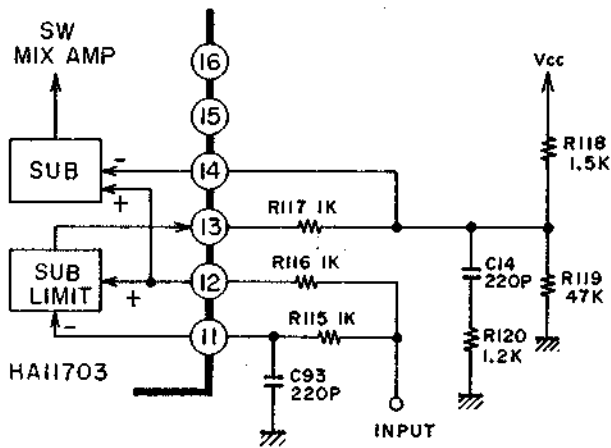

Fig. 73
The noise cancel is shown in Fig. 73, and the regenerative video signal enters ⑫, and the one with the high part removed by R115 and C93 enters ⑪. After taking the difference between ⑫ and ⑪, those processed by the limiter are outputted to ⑬. Therefore, here come out the small level components in high band, especially those